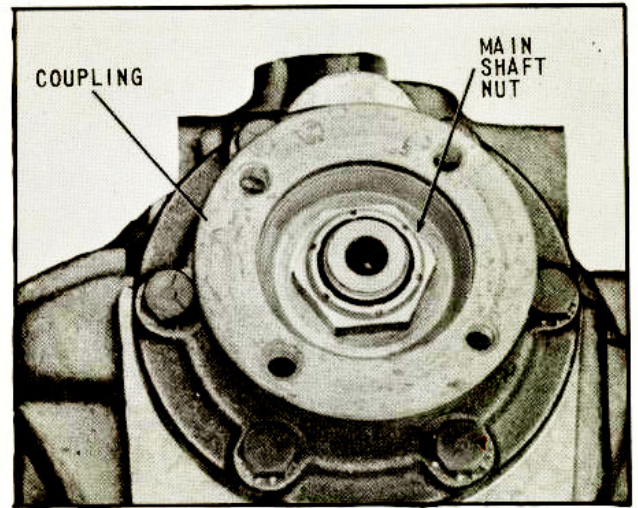

Fig. 28 View of Completely Assembled Output Shaft
26. Remove main shaft nut shown in (Fig. 28).
17. Assemble main shaft nut in place on output shaft and tighten to prescribed torque of 100 to 200 pounds-feet. This should bring inner race of bearing solidly in contact with the shoulder on output shaft and eliminate any detectable end play in the coupling and output shaft combination, (Fig. 28).